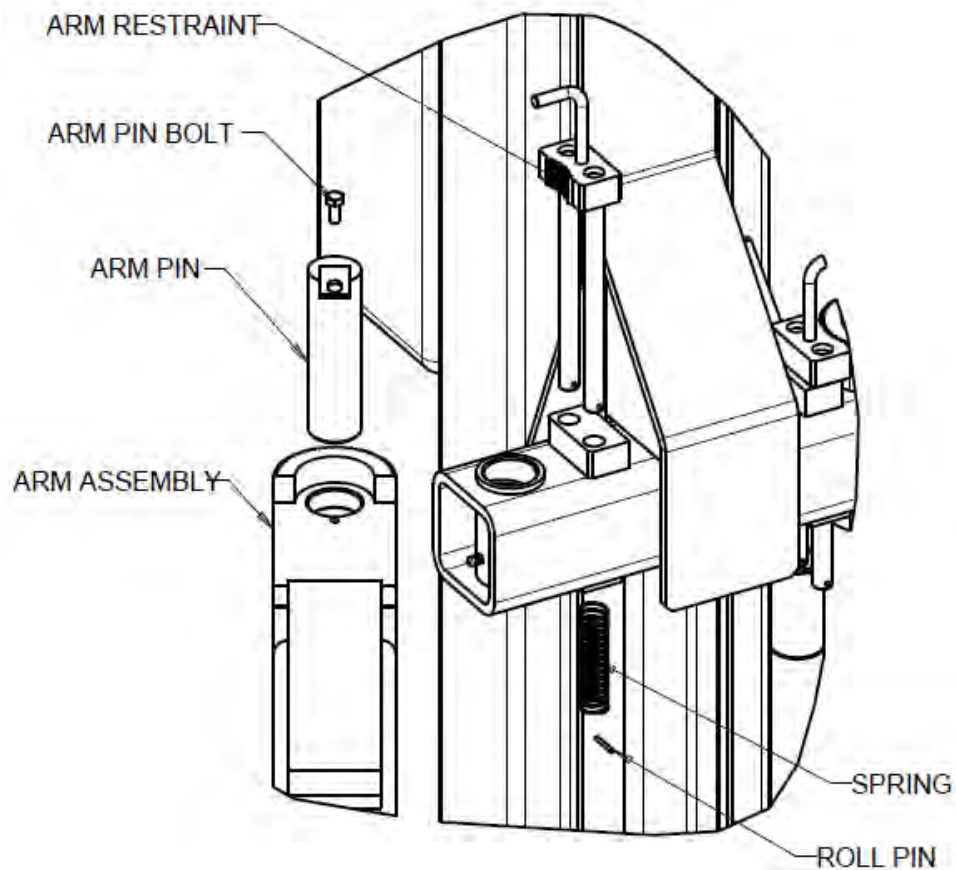

Figure 15 – Arm & Arm Restraint Installation
10. Insert the threaded stud into the 5/8" dia. hole in the mounting bracket second from the top of the carriage. **(Figure 15).**
11. Use a wrench to hold the top of the threaded stud to prevent it from rotating. Hand tighten (2) ½"-13 UNC nuts onto the threaded stud enough to remove all visible cable slack. Repeat steps 2 to 5 for the other equalizing cable.